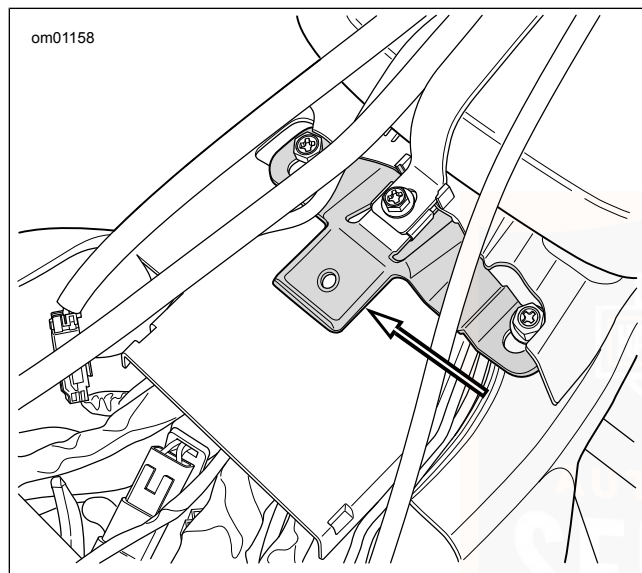
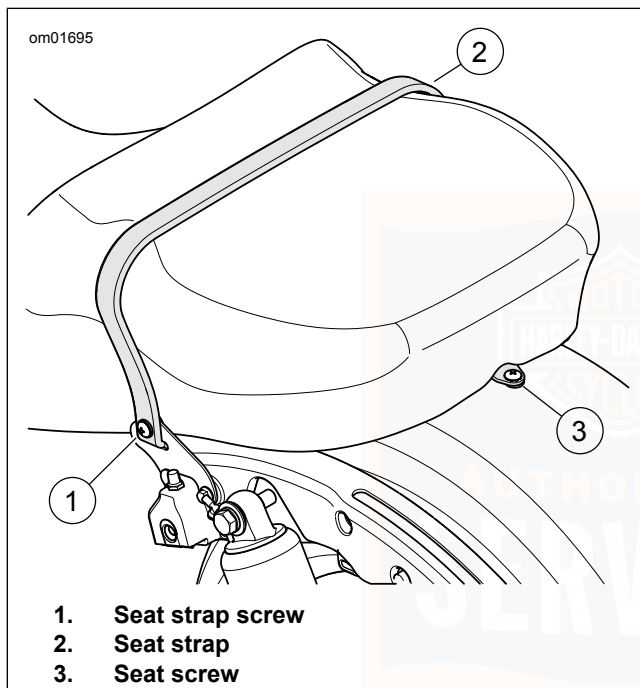

Figure 86. Seat Tongue
Figure 88. Seat Strap Screw
1. See Figure 88. Open right saddlebag cover. Remove screw (1) from seat strap bracket.
2. Pull upward on strap (2) to free it from slot in bracket. Move passenger seat strap to side of seat.
3. Remove mounting screw (3) to detach seat mounting bracket from top of rear fender.
4. See Figure 86. Push seat rearward to free tongue from slot in the seat.
3. See Figure 86. Firmly push front of seat downward and forward until tongue engages slot in seat.
4. See Figure 88. Push seat forward until rear fender seat retention nut is centered in hole of mounting bracket.
5. Install seat mounting screw (3). Tighten to **48–72 in-lbs** (5.4–8.1 N·m).
7. See Figure 88. Install end of seat strap in slot of seat strap bracket. Install seat strap bracket fastener. Tighten to **48–72 in-lbs** (5.4–8.1 N·m).